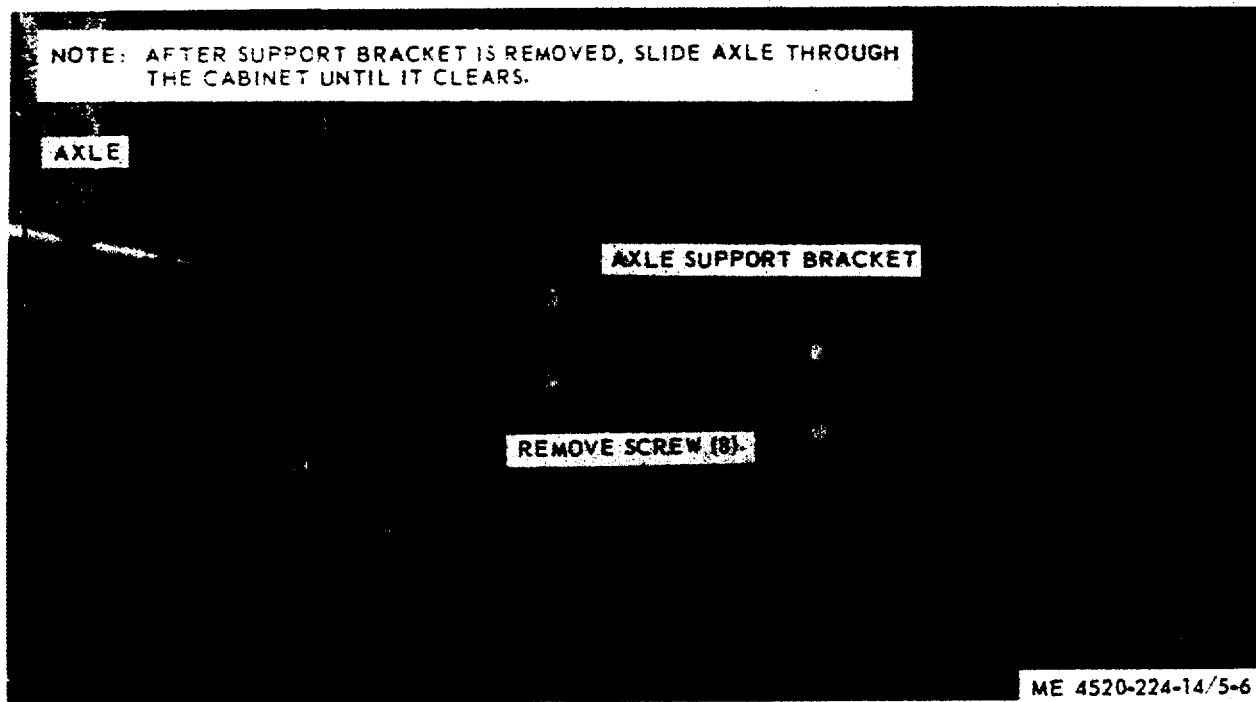

Figure 5-6. Axle, removal and installation.
5-11 Axle (fig. 5-6)
- (1) Refer to figure 5-6 and install the axle.
- (2) Install fuel tank.
- (3) Install wheels.